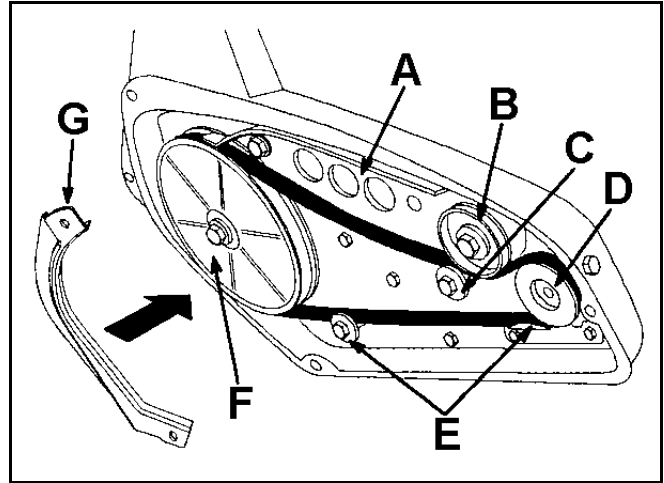

Figure 92
- Remove the old drive belt from the engine pulley and the idler pulley (Figure 92).
- Push down on the idler pulley and remove the drive belt from the rotor pulley (Figure 92).
- Push down on the idler pulley and route the new drive belt around the rotor pulley (Figure 92).
- Release the idler pulley and route the drive belt over the two belt guides, around the engine pulley, and between the idler pulley and the roller (Figure 92).
**Important** The drive belt must be on top of the roller and the two belt guides as shown in Figure 92.